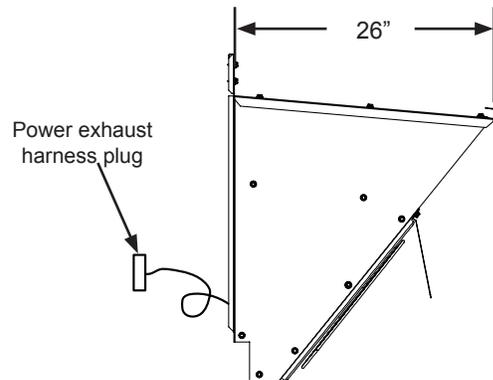

**Figure 2**
7. Connect the 5 pin plug (P18) from power exhaust into plug (J18) on bottom left corner of economizer. (See Fig. 2 and 5.) The 5 pin plug contains 2 wires for the low voltage connection to the economizer controller for power exhaust setpoint activation, and 2 or 3 (depending on voltage) high voltage wires.
10. Connect the 3 pin high voltage harness (P24) shipped with the power exhaust, to the 3 pin high voltage plug on the side of economizer (J24). See Fig. 2 for plug location.
11. Locate the black empty flexible conduit on the left top in the filter section (see Fig. 2).